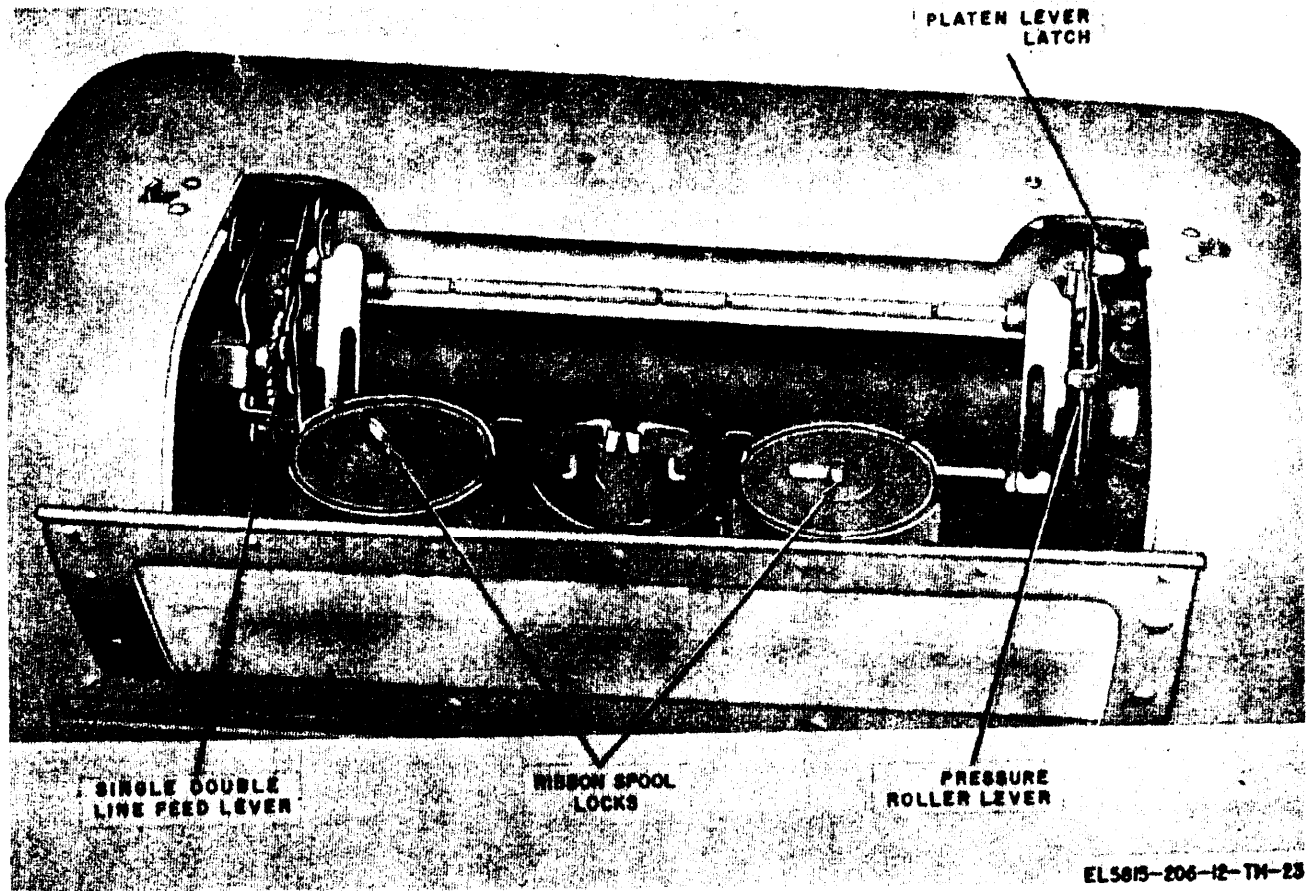

Figure 3-2. Platen controls (all models except TT-4A/TG and TT-698/TG)
Pressure roller lever (fig. 3-2)	Used to release pressure of pressure rollers against platen.
Platen lever latch (all models except TT-4A/TG) (fig. 3-2)	Use to lock pressure roller lever in either pressure or release position.
Single-double line feed lever (fig. 3-2)	Used to adjust line-feed mechanism for single or double line feed.
d. Push the single-double line-feed lever (fig. 3-2) to the rearward position for single line feed; pull it to the forward position for double line feed.
(5) If the paper is not centered on the platen, push the pressure roller lever of the TT-4A/TG or TT-698/TG slightly to the right and then forward to the pressure release position, or lift the platen lever latch (fig. 3-2) of all models except the TT-4A/TG and TT-698/TG. Move the pressure roller lever forward, and lower the platen lever latch. Center the paper on the platen and restore the pressure roller lever to the rearward (pressure) position.
a. If the teletypewriter is a TT-4A/TG or TT-698/TG, remove the dust cover as described in paragraph 3-5a. If it is any model other than the TT-4A/TG or TT-698/TG, swing the top door forward as shown in figure 3-2 to permit access to the inking ribbon.